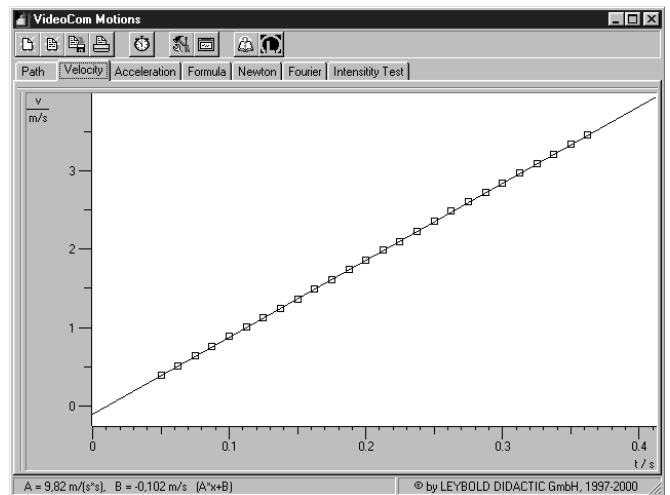
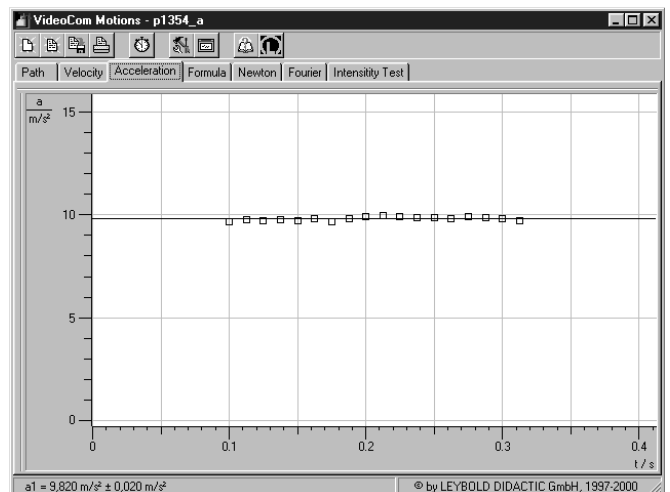

Fig. 4 Velocity-time diagram of the falling body.
Fig. 5 Acceleration-time diagram of the falling body.
The instantaneous velocity v , which is calculated from the measured values by clicking the register "Velocity", is a linear function of time (see Fig. 4 and cf. (II)). From the slope of the fitted line $A \cdot x + B$ the gravitational acceleration is obtained:
If the instantaneous acceleration a is calculated as a function of time by clicking the register "Acceleration", constant values are obtained within the accuracy of measurement (see Fig. 5). Their mean value is
The fitting result $B = -0.1 \text{ m s}^{-1}$ in Fig. 4 and Fig. 5 corresponds to a (physically meaningless) negative initial velocity of the falling body. Actually the recording of the measured values was started somewhat earlier than the motion of the falling body because the holding magnet released the falling body with a slight delay.